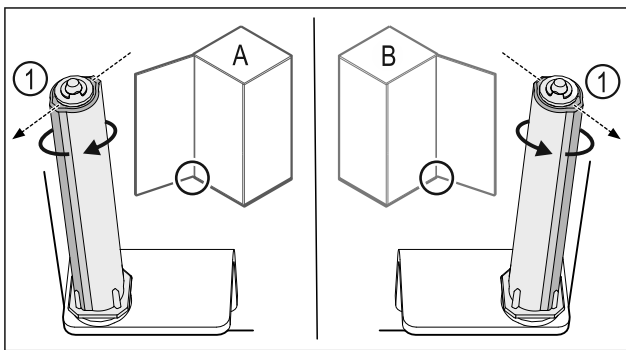

Fig. 42 Left-hinged (A) / Right-hinged (B)
- Turn the closing system against the resistance until the bar of the closing system Fig. 42 (1) points outwards.